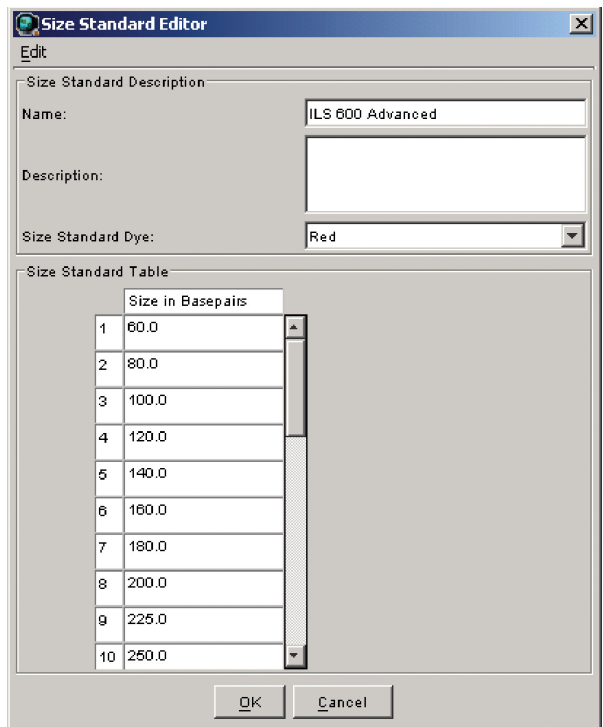

Figure 17. The Size Standard Editor
5. Enter a detailed name, such as "ILS 600 Advanced", in the Size Standard Editor (Figure 17).